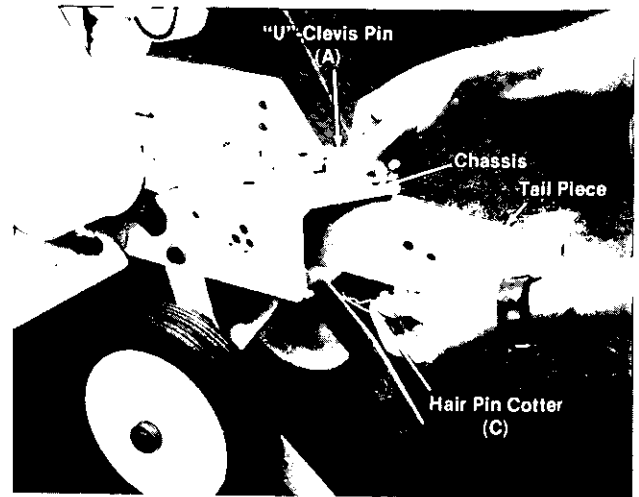

FIGURE 16.
Slide the tail piece into the chassis and secure with "U" clevis pin (A) and hair pin cotter (C). See figure 16.